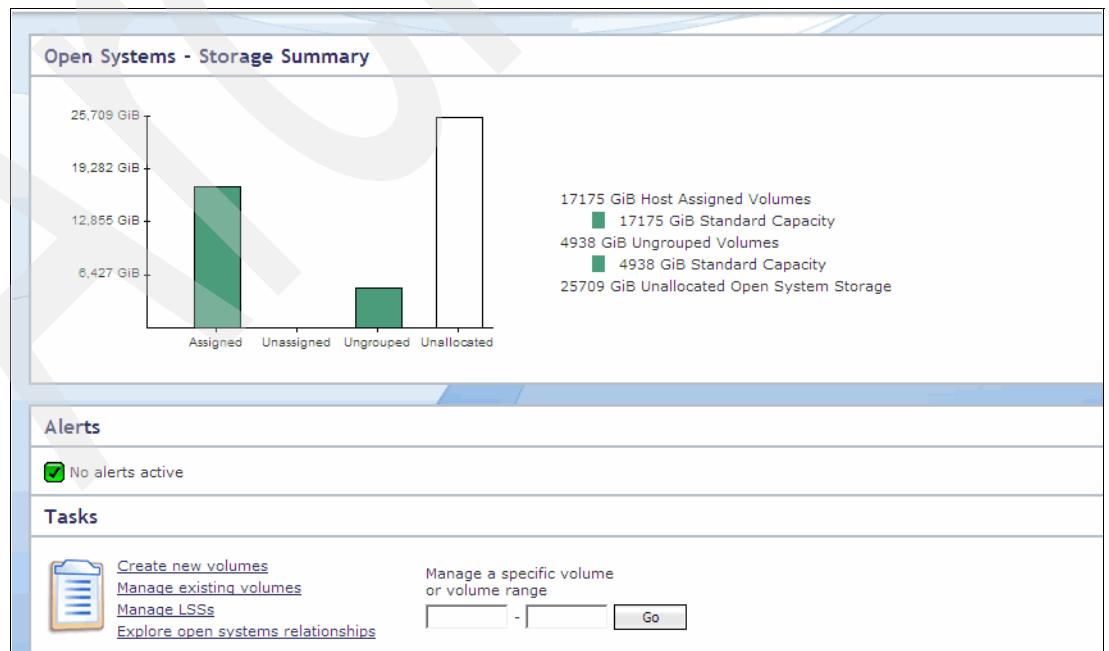

Figure 13-61 Open Systems Volumes: Summary
11. Once the creation is complete, a final window opens. You can select **View detail** or **Close**. If you click **Close**, you return to the main Open system Volumes window, as shown in Figure 13-61.